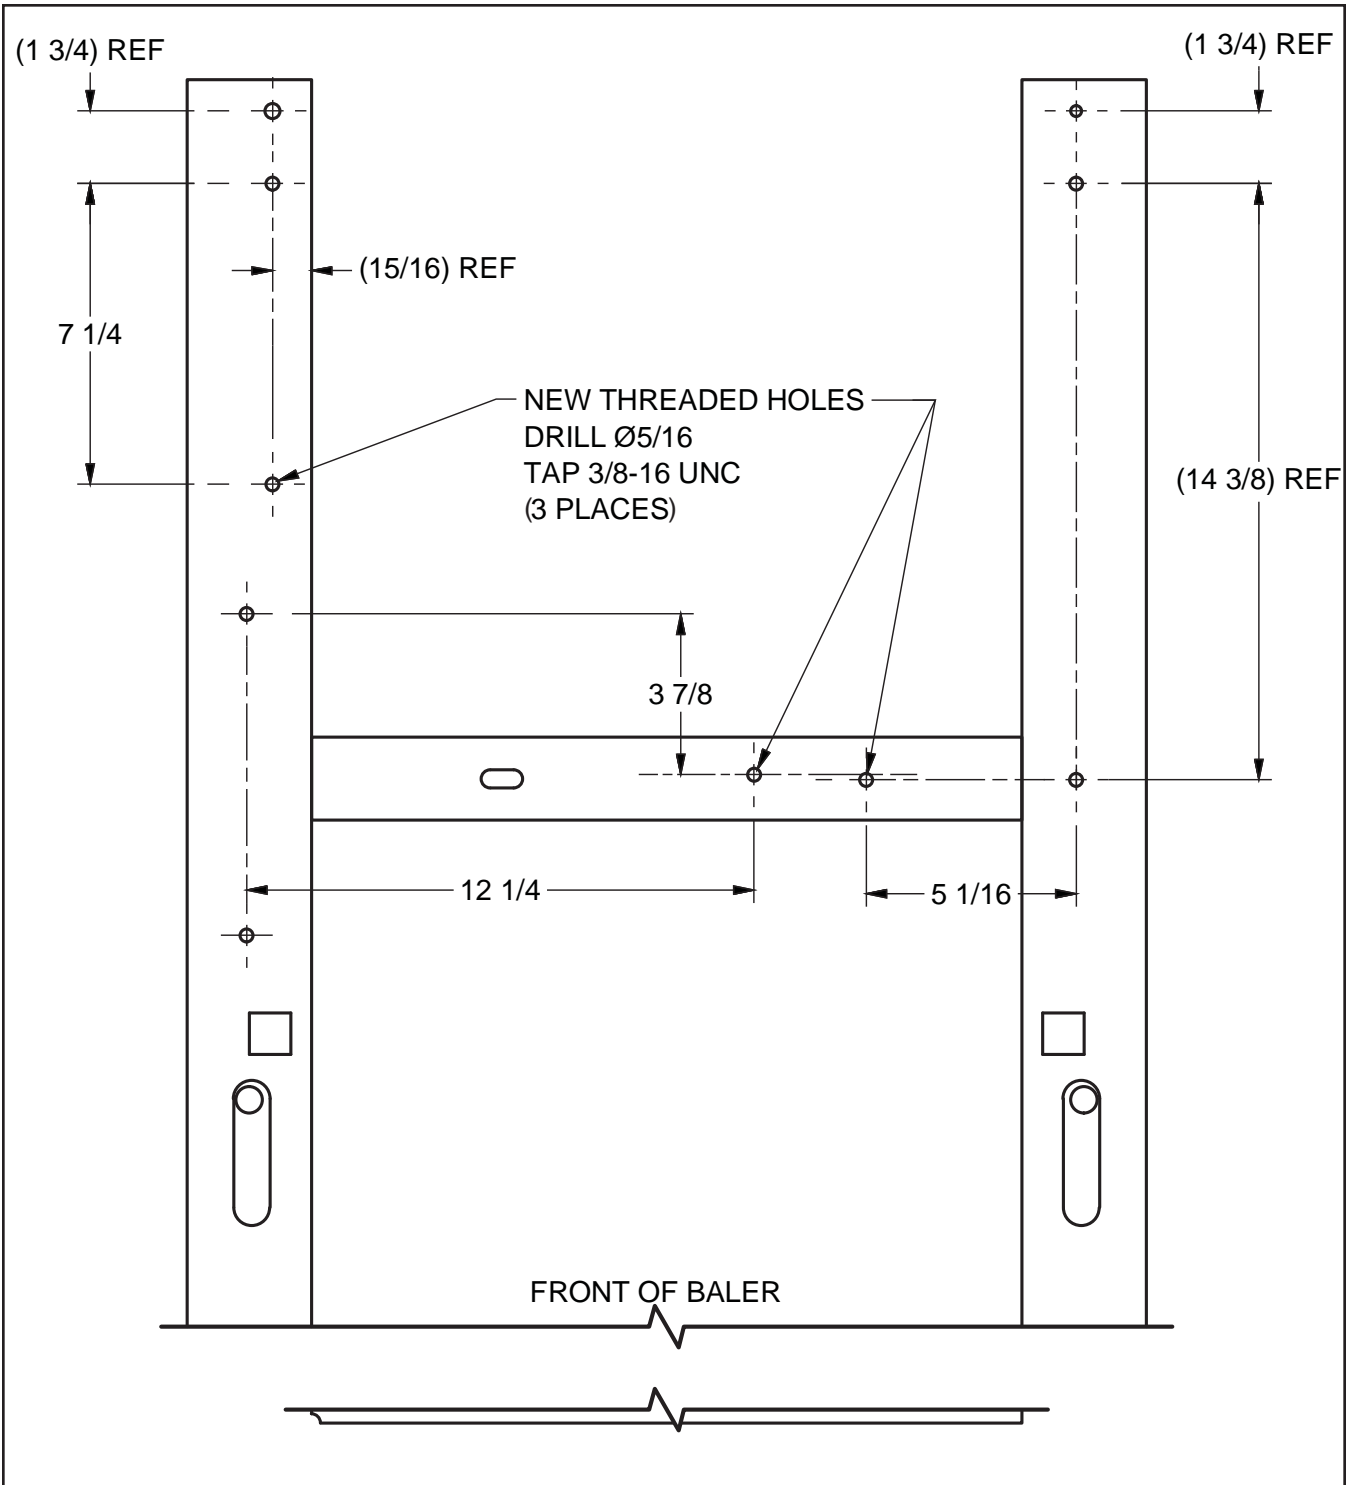

Figure 3
4. Drill and tap three (3) 3/8"-16 UNC tapped holes in the frame (See Figure 3). These threaded holes will be used for mounting the new Reservoir Assembly and new Top Chamber Shield.